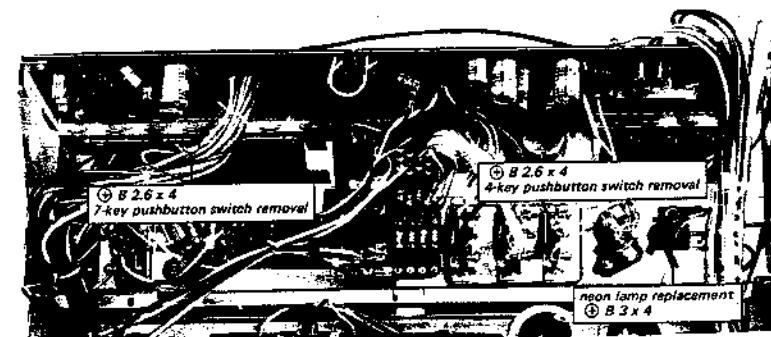

Fig. 2-5. Pushbutton switch and neon lamp replacement
1. Remove the three screws (④ B 2.6 x 4) securing the pushbutton switch to the front subchassis as shown in Fig. 2-5.
1. Remove the screw (④ B 3 x 4) securing the neon lamp to the chassis as shown in Fig. 2-5.